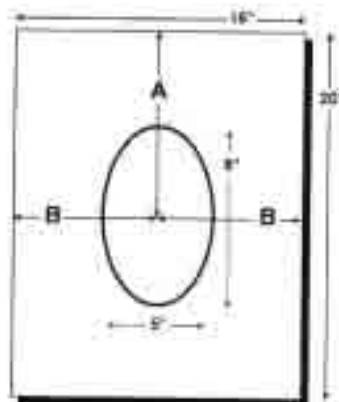
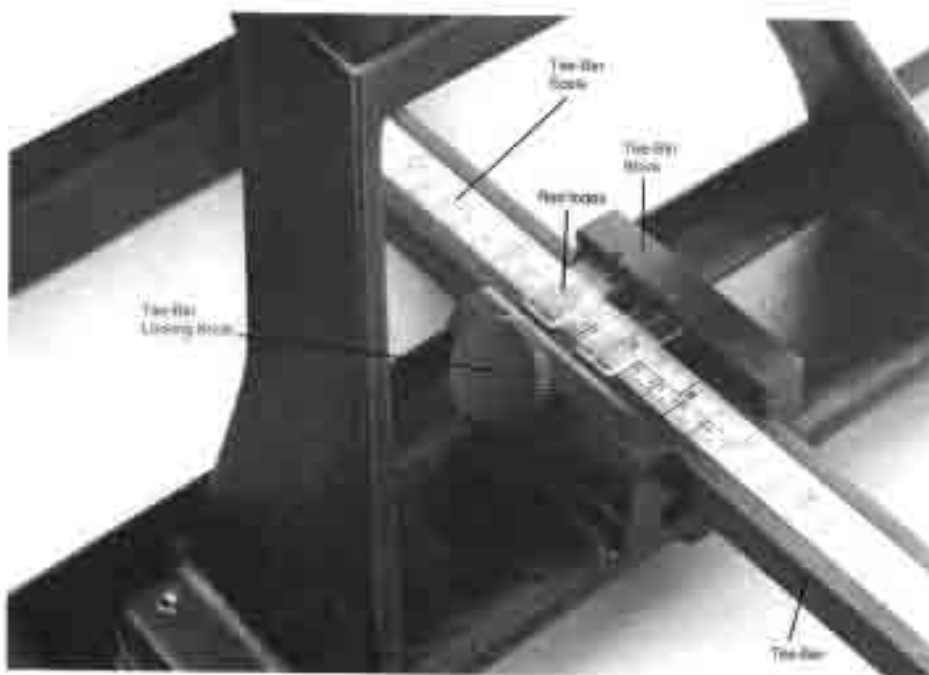

Figure 4
Figure 5
To cut ovals, you must know what your *off-set* is: The off-set is the difference between the length and width of the oval. In this example, the off-set is 3" [70mm]—the difference between 5" [130mm] and 8" [200mm]. (The maximum off-set is 6" [152mm].) See Figure 4.
1. To cut a mat on the Fletcher 1100, you must know where the center of your cut-out will be from the top edge (A) and side edges (B) of the mat. See Figure 4. Locate the center of the cut-out from the top edge of the mat (A) by using the *red* index line on the **Tee-Bar Scale**. In this example, the cut-out will be in the center of the mat board (10" [254mm] from the top of the mat), so use 10" [254mm] as your measurement. Loosen the **Tee-Bar Locking Knob** on the **Tee-Bar Block** and slide the **Tee-Bar** so that the red index line is positioned at 10" [254mm] on the **Tee-Bar Scale**. Tighten the **Locking Knob**. See Figure 5.
2. Attach the **Border Clamps** to the **Clamp**, so that they will be just inside the top corners of the mat. Position the mat board and slip sheet under the **Border Clamps**. Locate the edge of the mat against the **Measuring Stop**, which is set for the B dimension. (See Figure 4.) Push the **Clamp Levers** down. The mat is now positioned 1" [25mm] from the **Clamp Scale**. See Figure 16.